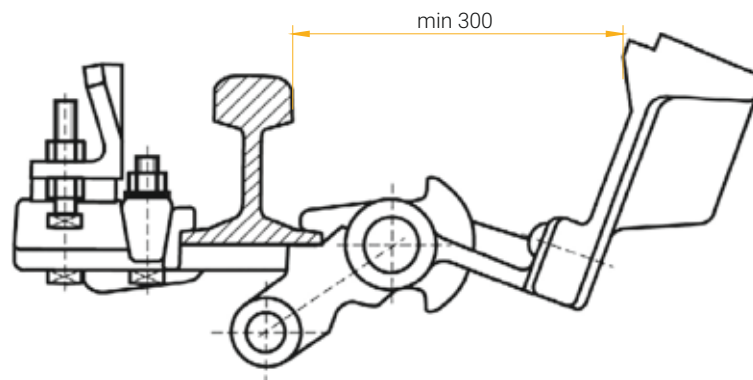

Fig. 5 Control dimension min. 300mm
- Confirm that the distance between the rail head and the wedge plate edge is 300 mm when the wedge plate is in the effective position (removed from the rail, refer to Fig. 5).